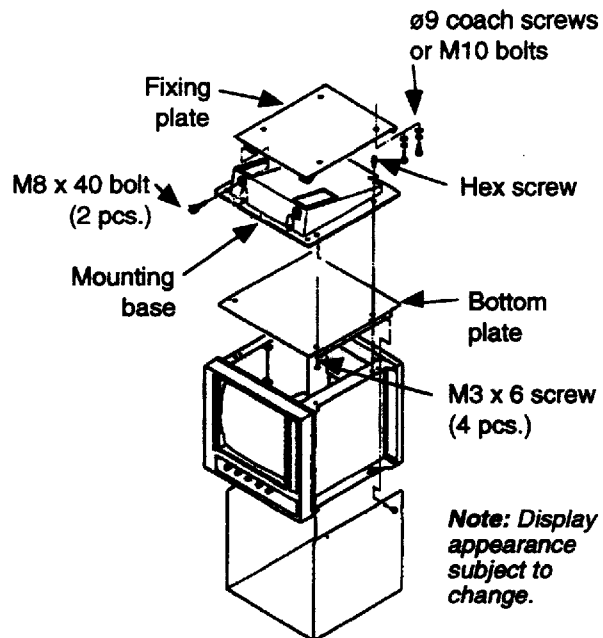

Figure 5 Display unit overhead mounting
- 1) Referring to Figure 5, change the location of the fixing plate, mounting base, bottom plate and cover to mount the unit on the overhead.